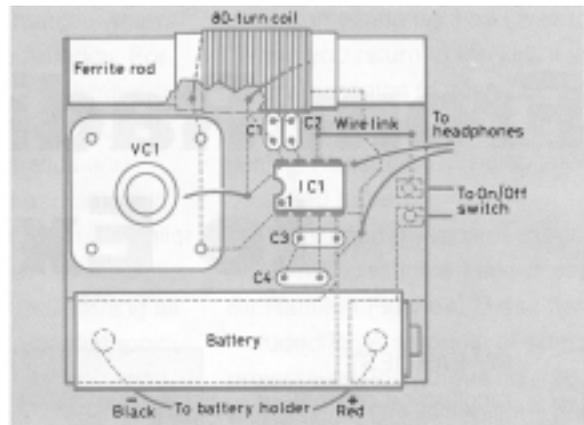

Figure 2b The PCB, component side
6. **Strip bare 1 cm of insulation from the ends of two wires.** Solder them between the PCB and the headphone socket (see **Figure 3b**). Use the end tabs on the socket. Using another pair of insulated wires connect the ON/OFF switch to the PCB tabs shown in **Figure 2b**.
8. **Fit IC1 into its holder.** This should be done carefully, making sure that *all* the pins are located above their respective clips *before* applying any pressure! Make sure also that the notch on the IC (as shown in Figure 2b) matches the notch in the holder, and faces VC1.